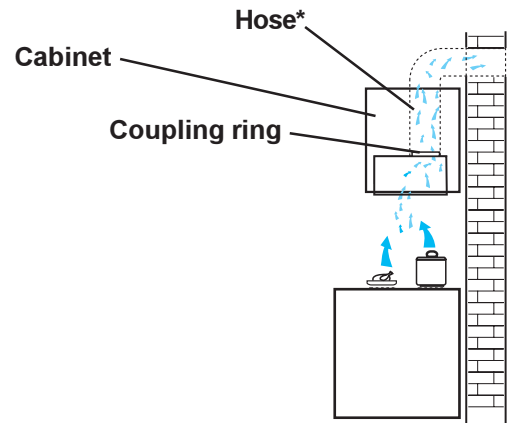

Fig. 1 * The hose is not supplied and must be purchased separately.
- In this version fumes are extracted to the outside via a hose connected to the coupling ring. **Fig. 1**.